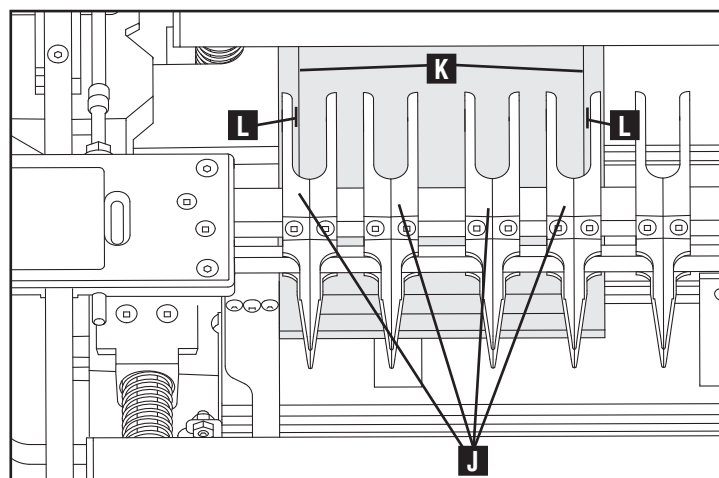

Fig. G6
NOTE: Be sure to space the fingers (J) around the tall edges (K) of the workpiece, as shown in Fig. G6. Maintain 1/8" gap at (L).